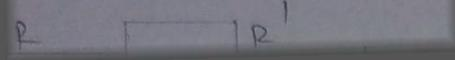

Figure 8.6
- Connect the circuit as shown in figure 8.6.